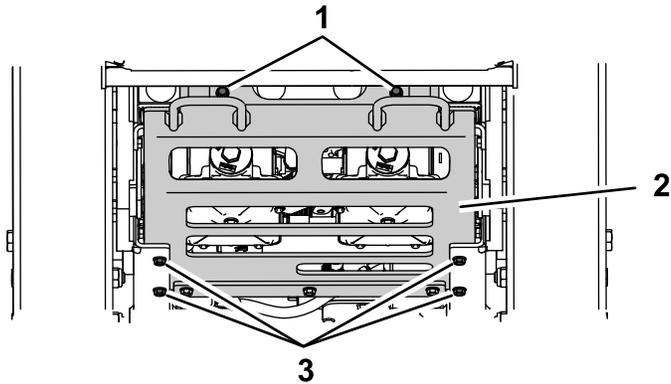

Figure 49
4. Remove the 6 bolts (2 rear, 4 side) from the skid plate and remove the skid plate (Figure 49).
15. Install the skid plate (Figure 49).